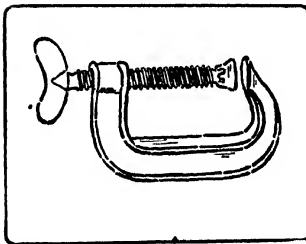

Fig. 177. Iron Handcrew, (Carriage-Maker's Clamp).
*Iron Handscrews*, also called C clamps and carriage-makers' clamps, Fig. 177, are useful in certain kinds of work, as in gluing in special places and in wood-carving. All iron clamps need blocks of soft wood to be placed between them and the finished work.